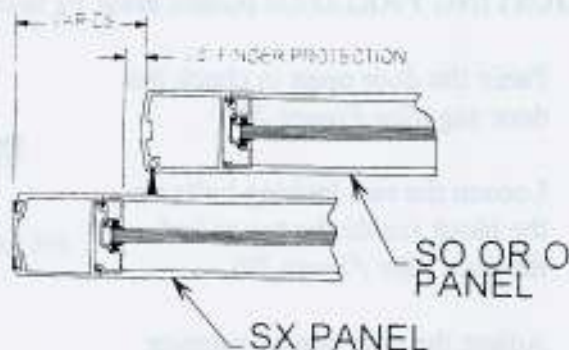

Figure 26
- Adjust the door stop so there is a 3/8 inch gap from the face of the glass stop to the face of the sidelight or swing panel (See Figure 26). In some cases the door stop will be mounted on the jamb tube.